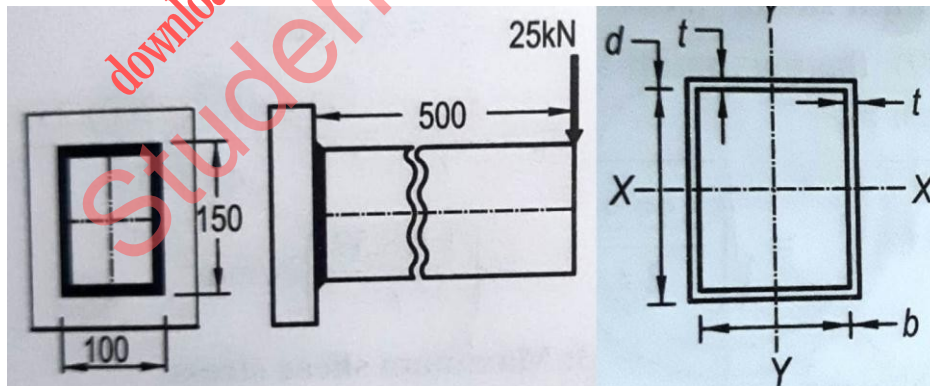

Figure 2
6. A beam of rectangular cross-section is welded to a support by means of fillet welds as shown in figure 2. Determine the size of the welds, if the permissible shear stress in the weld is limited to 75 N/mm². [10]